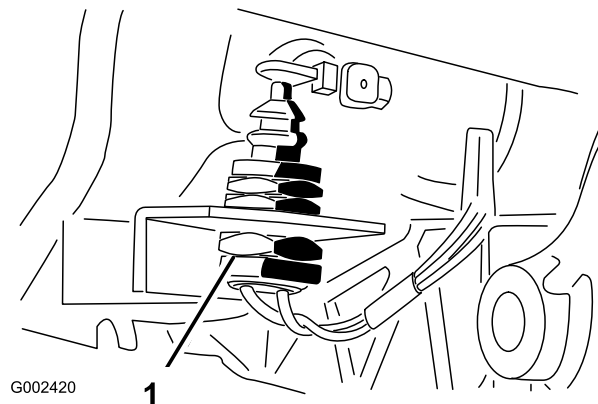

Figure 72
7. Recheck the clutch safety switch adjustment (Figure 72). The engine must not crank unless clutch